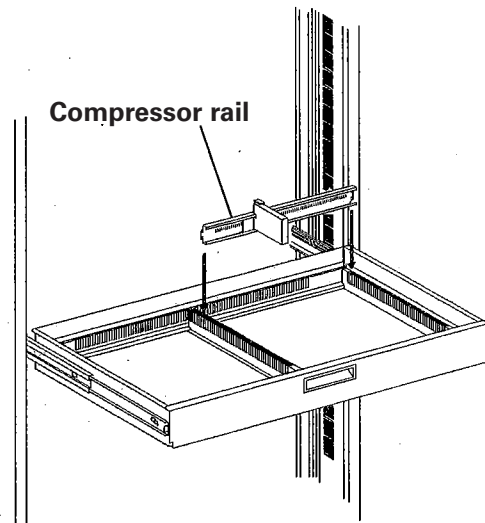

Figure 5. Compressor installation
5. Install the first rail with its compressor into the rear slots of the center rail and either the L.H. or R.H. end rail. The compressor should be facing the front of the drawer (see Figure 5).
7. Install the second rail in front of the media, allowing some clearance between the media and the back of the rail (see Figure 5). Install remaining rails in the same manor.